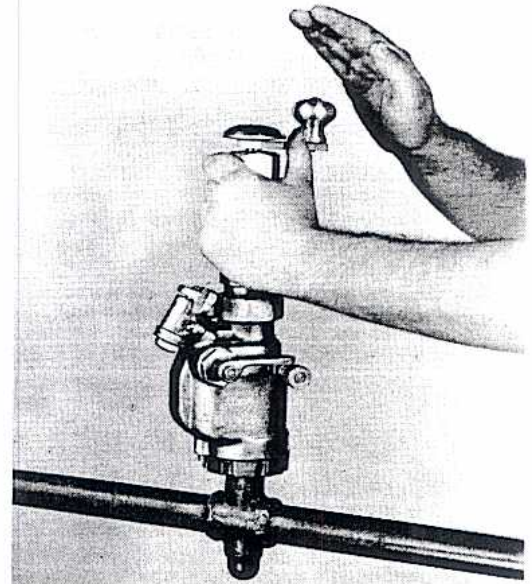

FIGURE 38
9. Reverse ratchet on "T" or "T-W" Machines and turn the handle **counter-clockwise** to take up the slack. Hold in this position with one hand and strike the end of the handle a sharp blow **counter-clockwise** with the other hand. FIGURE 38.